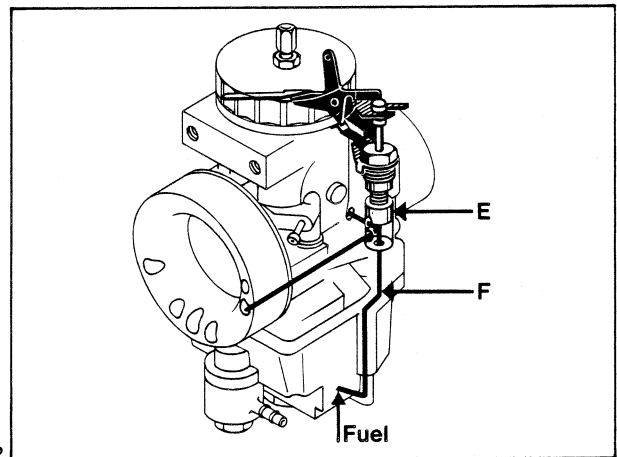

Fig. 3.2
When the cold start valve (E) is open, fuel is sucked direct from the float chamber through the channel (F), into the venturi. See fig. 3.2.